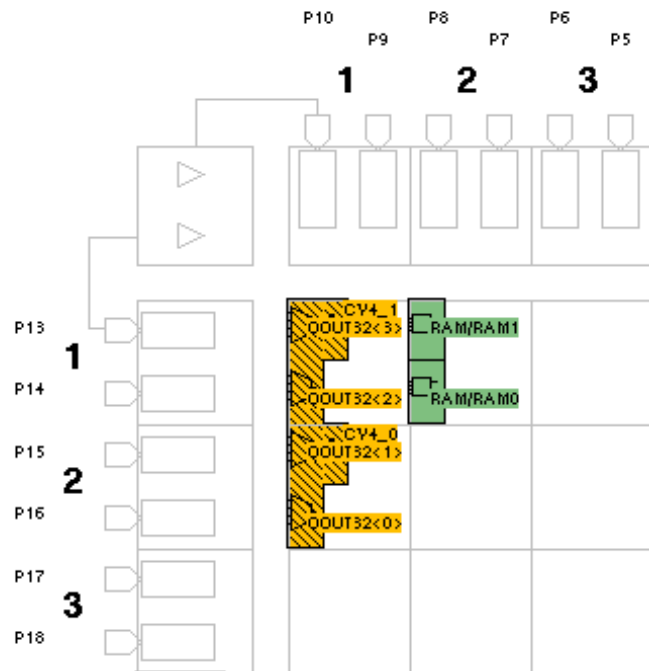

Figure 4-13 Floorplanned RPM and RAM
11. Place the RPM by clicking in the area shown in Figure 4-13.